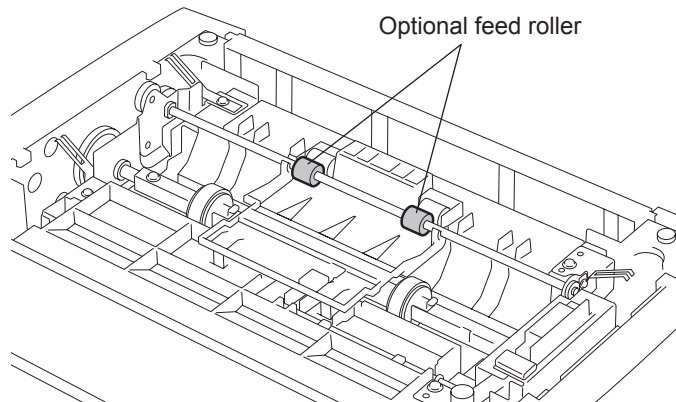

Fig. 10-20
- 13) Optional feed roller (P.10-13 "Fig. 10-20")